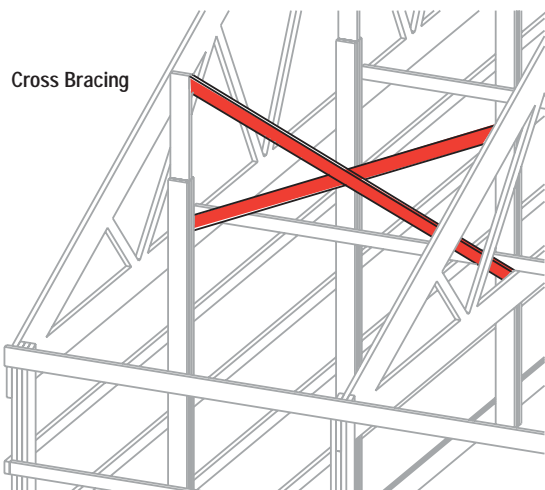

FIGURE B10-20
- Truss-to-truss cross bracing at 20' on-center maximum spacing (Figure B10-20) unless 3.4 (c) is adopted and applied to all trusses that have been set,